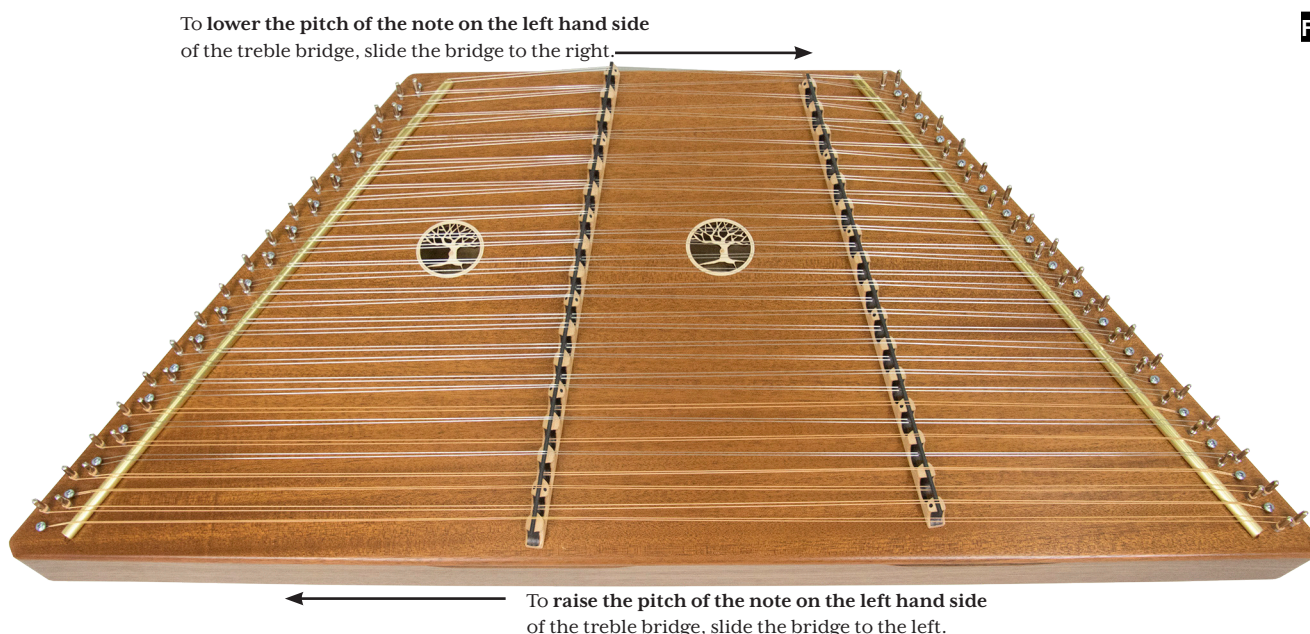

FIG. 31
- C) Now, if the note on the left of the bridge is HIGHER than it should be (more than a fifth interval above the right side), then you must LENGTHEN the amount of wire on that left side of the bridge to lower the pitch. Do that by sliding the bridge to the right, just a little (you may need to use a scrap wood stick and a hammer to tap against the bottom of the bridge). Then test the interval again. (fig. 31)
- D) If the note on the left side of the bridge is LOWER than it should be (less than a fifth interval above the right side), then you must SHORTEN the length of wire vibrating on the left side of the bridge to raise the pitch. Do that by sliding the bridge to the left, just a little. Then test the interval again. (fig. 31)